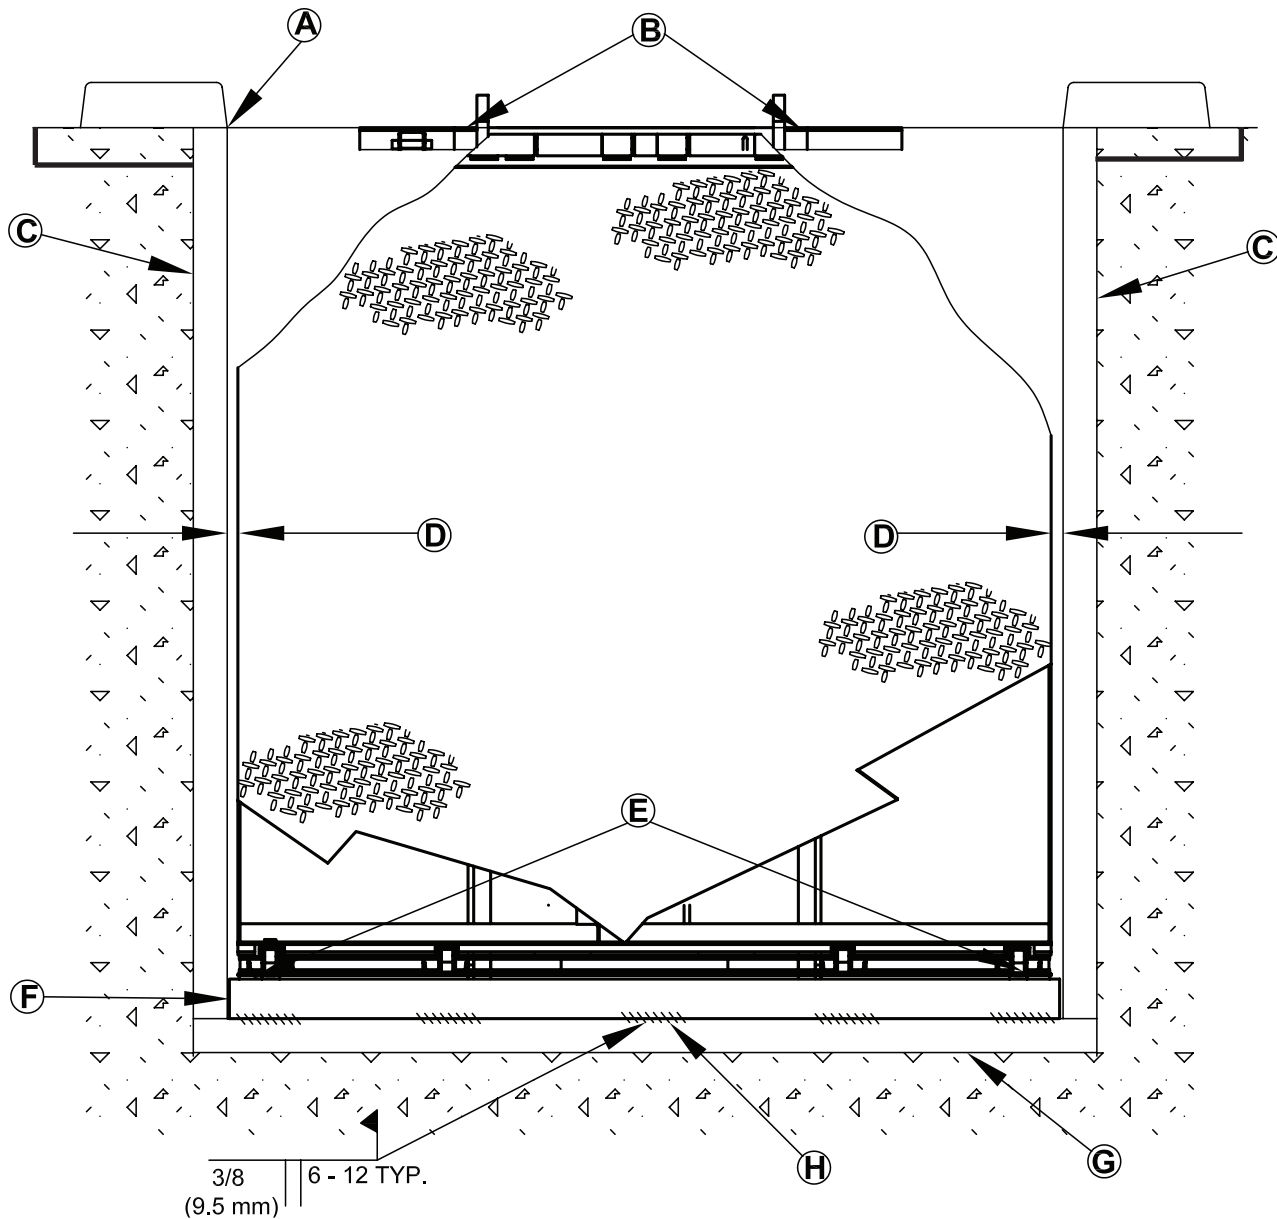

Figure 13
Note: Figure 13 shows a typical weld pattern. The weld pattern will vary slightly depending on size of dock leveler.
18. Install shims at locations (**C** and **D**) using the pyramid or stepped shimming method (see Figure 13). Both platform cylinder trunnions must be solidly shimmed the entire length of the trunnion. Make sure the trunnions are level from side-to-side as well as from front-to-back.